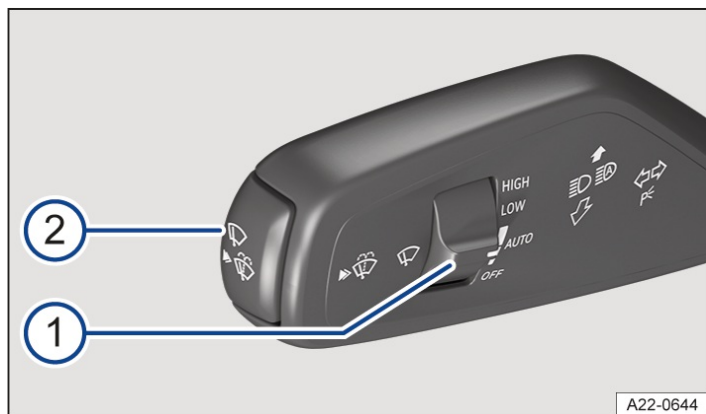

Fig. 1 On the left-hand side of the steering column: turn signal and main beam lever.
2. Turn the switch to the required position → Fig. 1 ①: